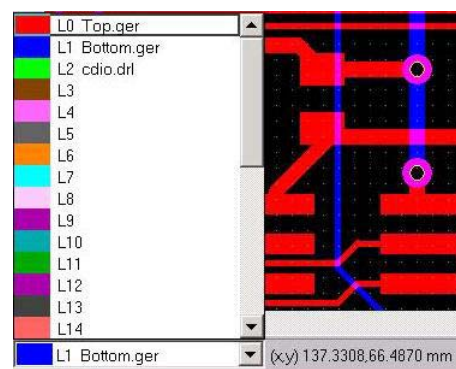

Figure 4: Set active Layer
1. First set Layer L1 "Bottom.ger" as active(working) layers (see Figure 4).